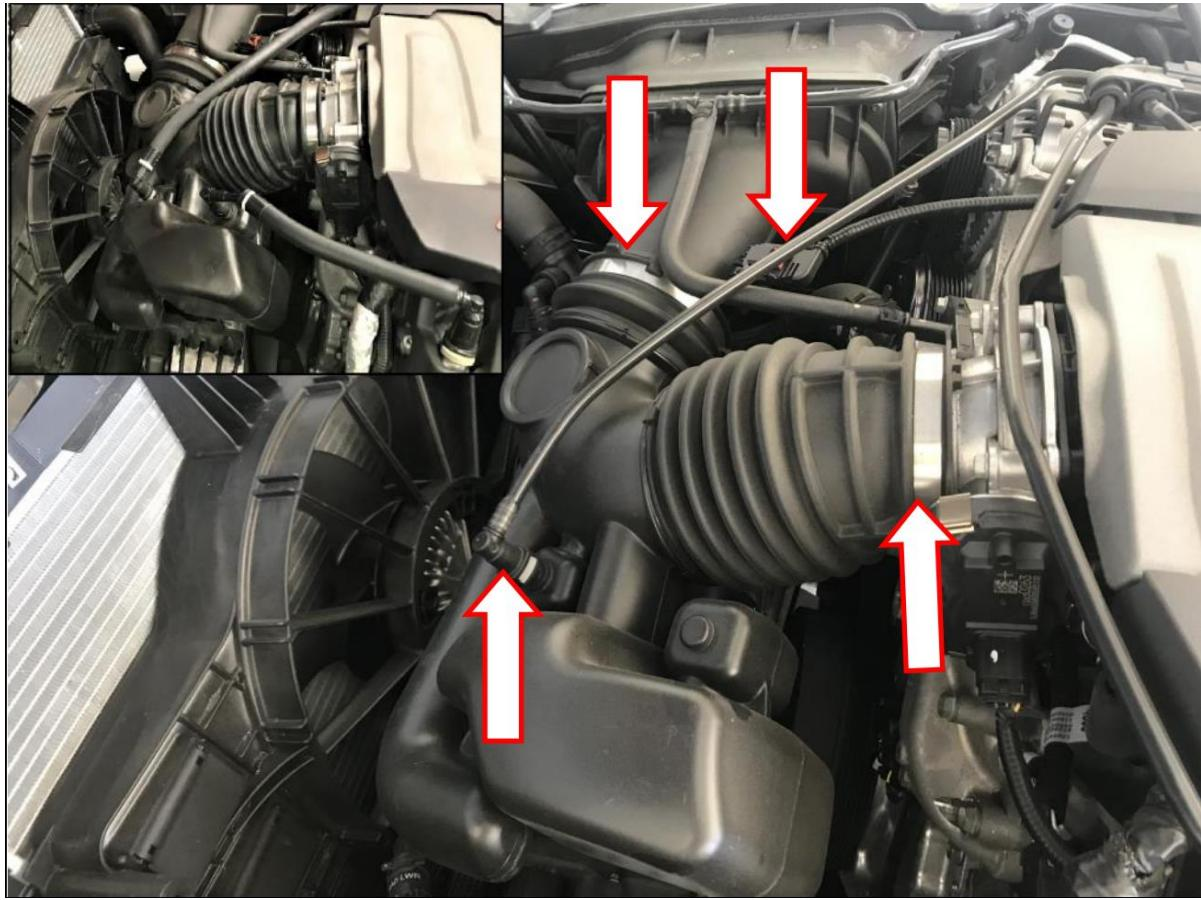

Figure 8 – Intake Air Tube Removal 2
3. Disconnect the crankcase vent (CCV) fitting from the factory intake tube (**Figure 8**).
4. Disconnect the Mass Air Flow (MAF) sensor wiring harness (**Figure 8**).